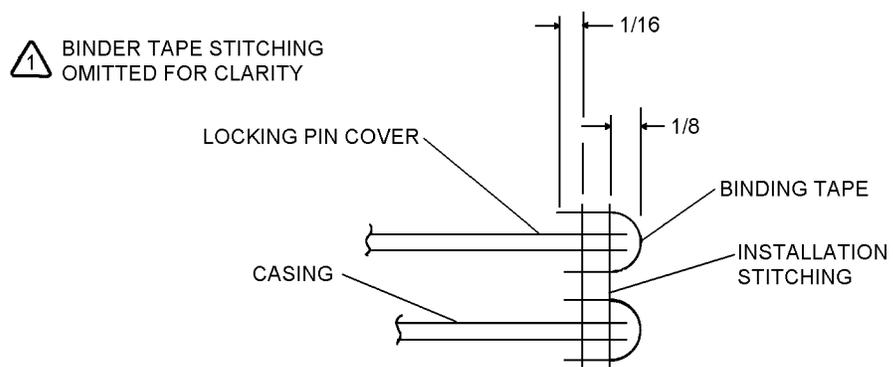

Figure 26-11. Locking Pin Cover Installation
4. Align locking pin cover with mating surface of casing assembly and install in accordance with figure 26-11.